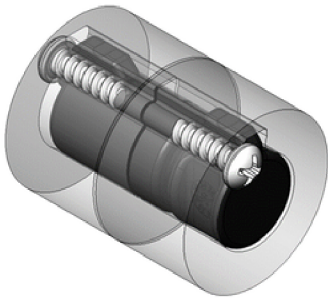

Figure 1: Same Fin Side Installation
2. The fastener may be applied to either side of the fins as shown in Figures 1 and 2. Port geometry must be reversed for one of the fasteners in this case: